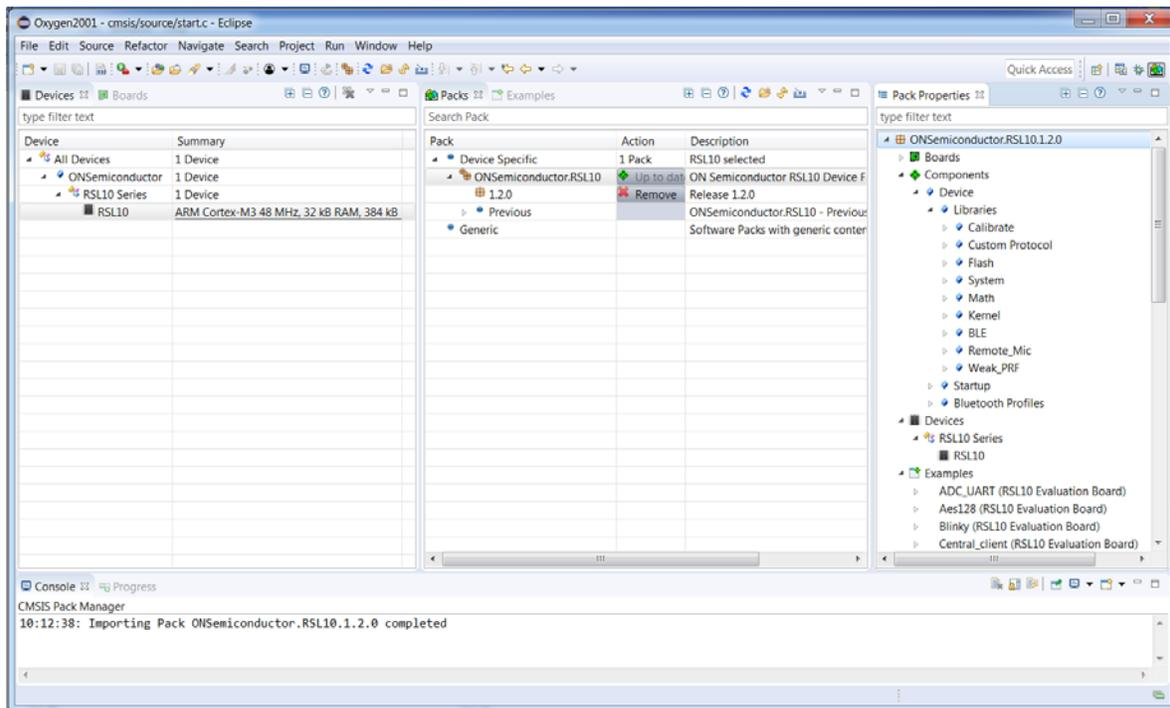

Figure 6. Pack Manager Perspective after RSL10 CMSIS-Pack is Installed
7. The RSL10 CMSIS-Pack now appears in the list of installed packs. In the **Devices** tab, if you expand **All Devices > ONSemiconductor > RSL10 Series** you can see RSL10 listed there. You can manage your installed packs in the **Packs** tab. Expanding *ONSemiconductor.RSL10* makes the **Pack Properties** tab display the details of the RSL10 CMSIS-Pack. Figure 6 on page 10 illustrates what the Pack Manager perspective looks like after installation.